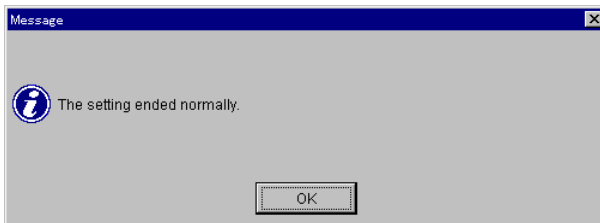

Figure 4.8 Setting Ended Confirmation Message
10. In the SANTinel (Security Property) panel, click the **OK** button. The following message appears (see Figure 4.8).
6. Click the **OK** button. A message appears (refer to Figure 4.8).
8. Click the **OK** button on the Security Property panel. A message appears (refer to Figure 4.8).
7. Click the **OK** button. A message appears (refer to Figure 4.8).